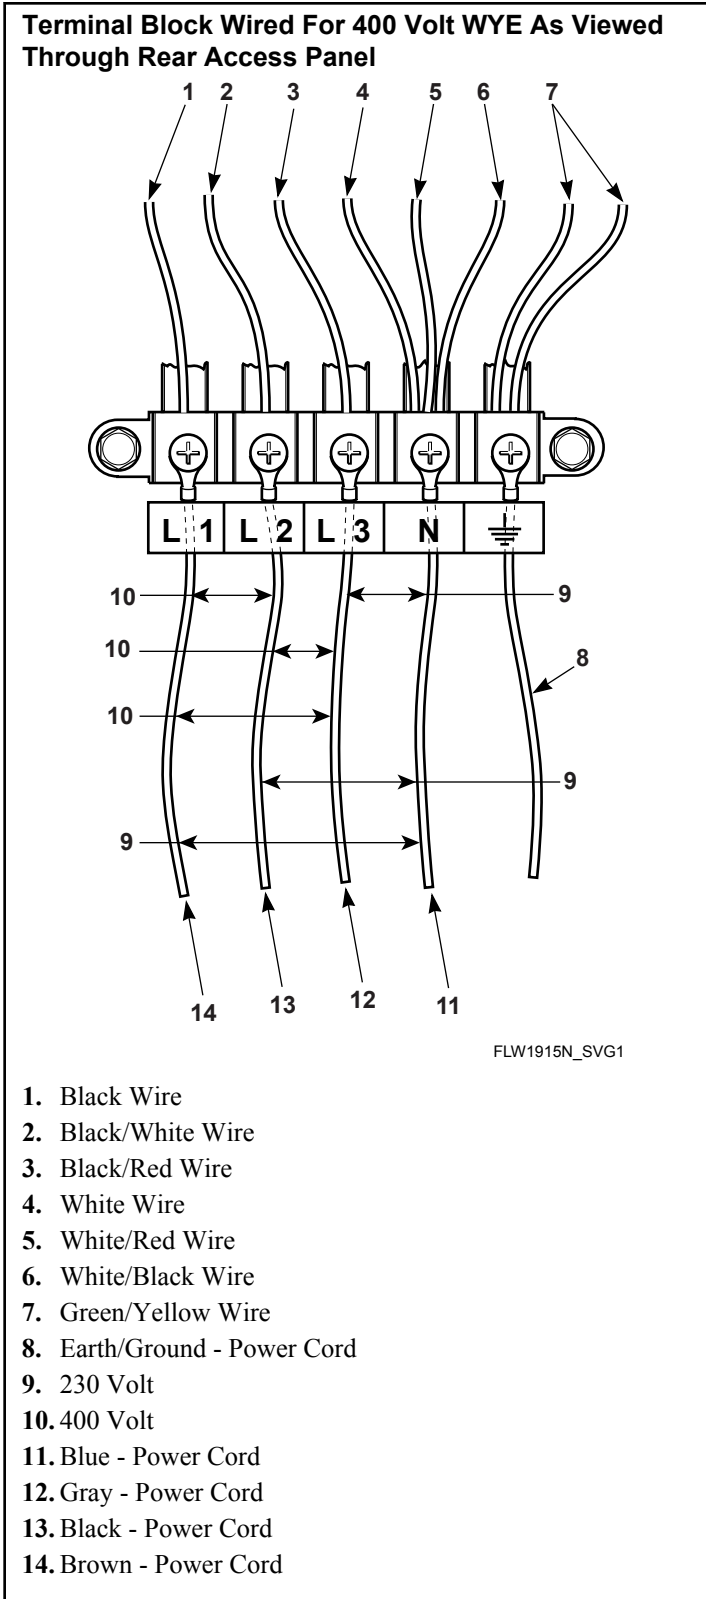

Figure 11
5. Attach power cord wires as shown in *Figure 11*.